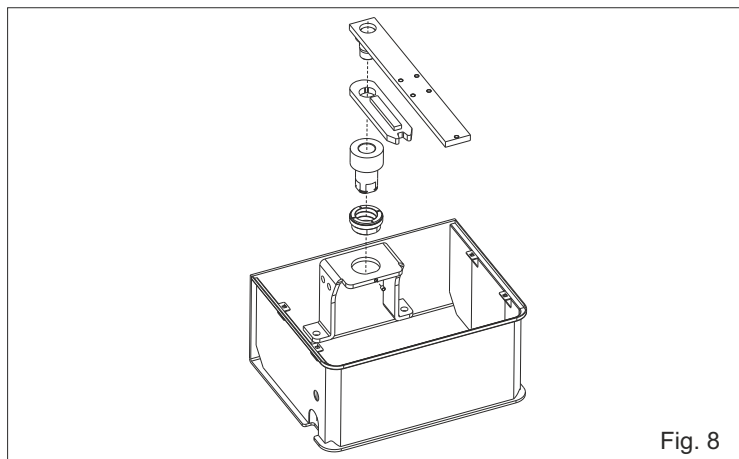

Fig. 8
2.4. introduce the buckle of creeping in the box and fix it with the special screws (Fig. 8).
2.5. Insert the units as in Fig. 8.